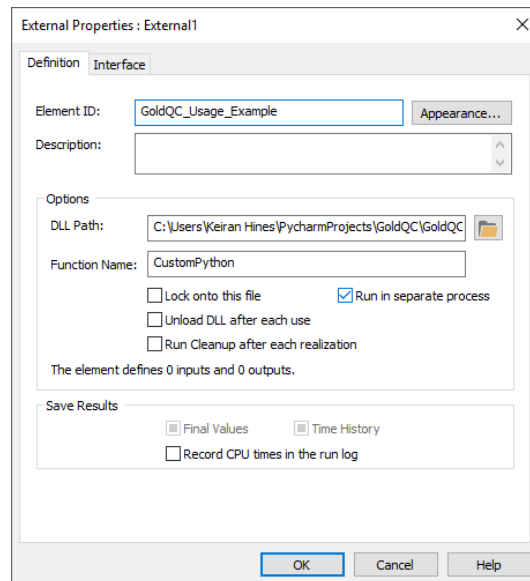

Figure 6: Configuring External Element Part 1
3. The External Properties dialog will pop up. In the DLL path specify the path to the needed GoldQC.dll file, in this example I am using the GoldQCx64.dll file. In the Function Name field type “CustomPython”. Finally tick the “Run in separate process” dialog box. See Figure 6.